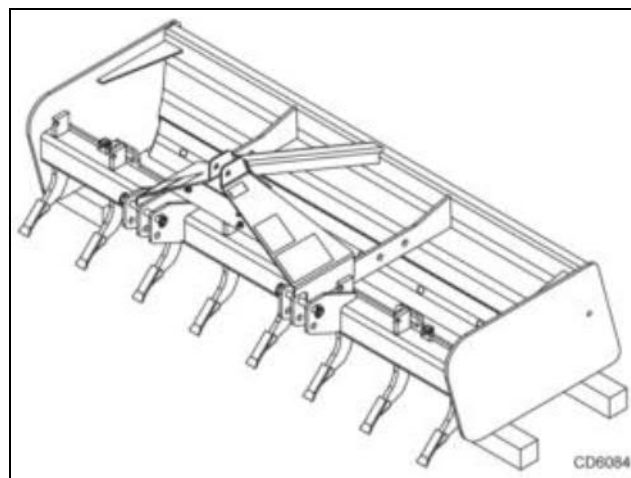

Figure 4. Box Blade Blocked Up
1. Place two 4" x 4" blocks under each side frame of the box blade as shown in Figure 4.
1. Block up machine (see Figure 4).
To service the box blade when attached to the tractor, it must be blocked up off the ground (see Figure 4).